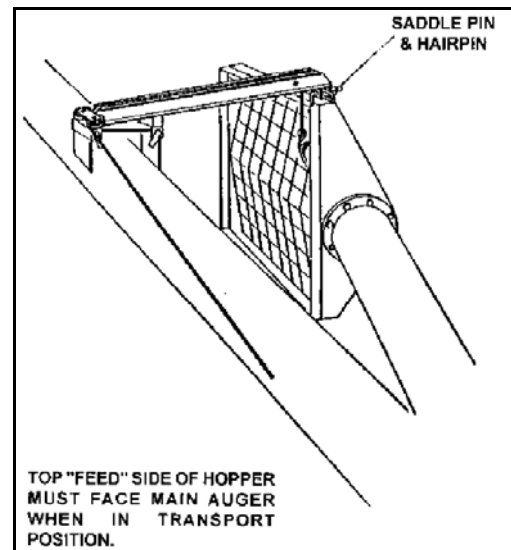

Figure 4.3
4. Raise intake feed hopper into transport position by attaching cable hook to the handle on the side of the hopper, then fully raise hopper with intake side facing toward main auger. Secure hopper to lift arm with the hopper lock, saddle pins, and hairpins provided. See Figure 4.3.
**Important:** *Intake feed side of hopper must face main auger when in transport, see Figure 4.3.*